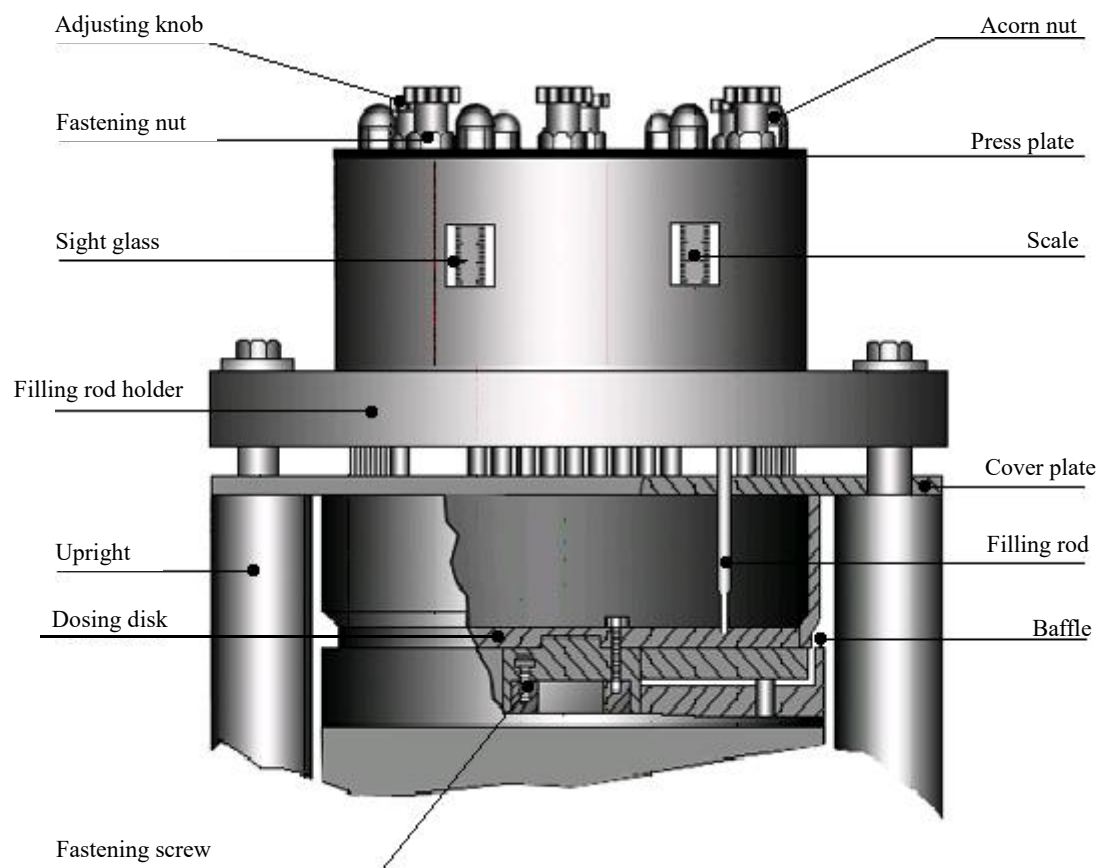

Fig. 21 Adjustment of Filling Rod Height
- 5.1.3.4 Loosen and remove acorn nut, rotate knob clockwise (refer to Fig. 21) to uplift and remove press plate and filling retainer;